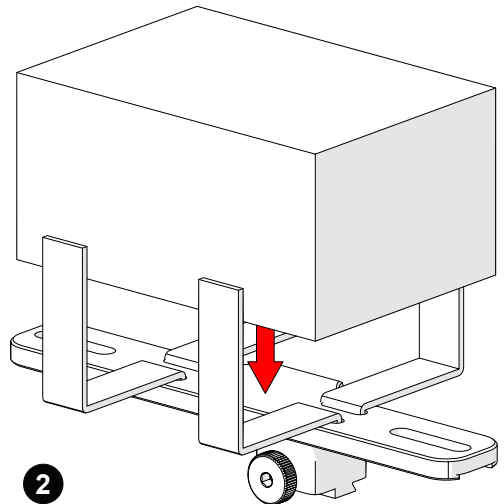

Fig. 88 - Place preamp and wrap velcro
2. Centre and place the preamp on the bracket, wrapping the velcro around the preamp (Fig. 88).